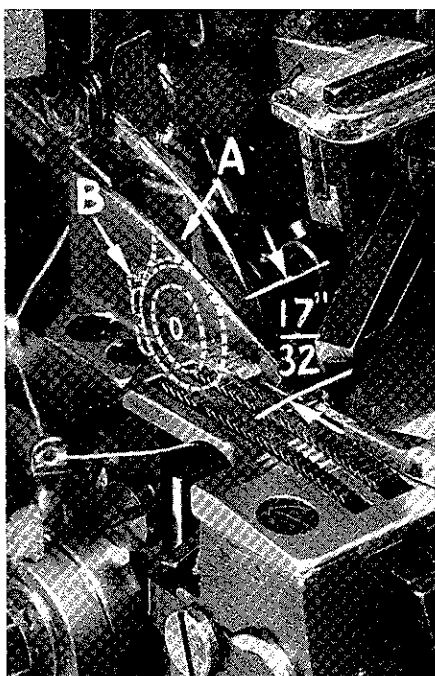

Fig. 3
With throat plate assembled in position, needle should center in the front end of needle slot. When needle is at high position, needle point should be set 17/32 inch above throat plate (Fig. 3). To align needle or set the height above throat plate, move needle driving arm (A, Fig. 3) by loosening clamp screw (B). Remove throat plate, after needle has been set properly and clamp screw (B) has been tighten.